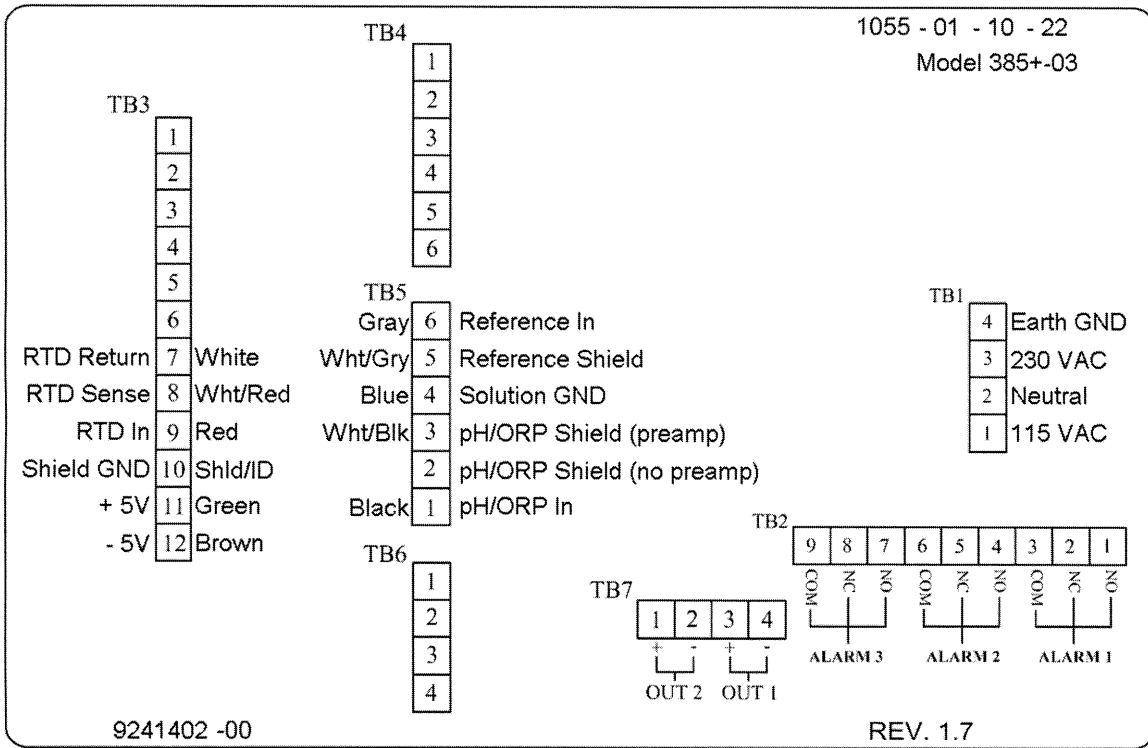

FIGURE 2-6. Wiring to Model 1055-10-22 (single measurement only)
2.3 ELECTRICAL INSTALLATION. Make electrical connections as shown on Figures 2-6 through 2-14 using the following guidelines: